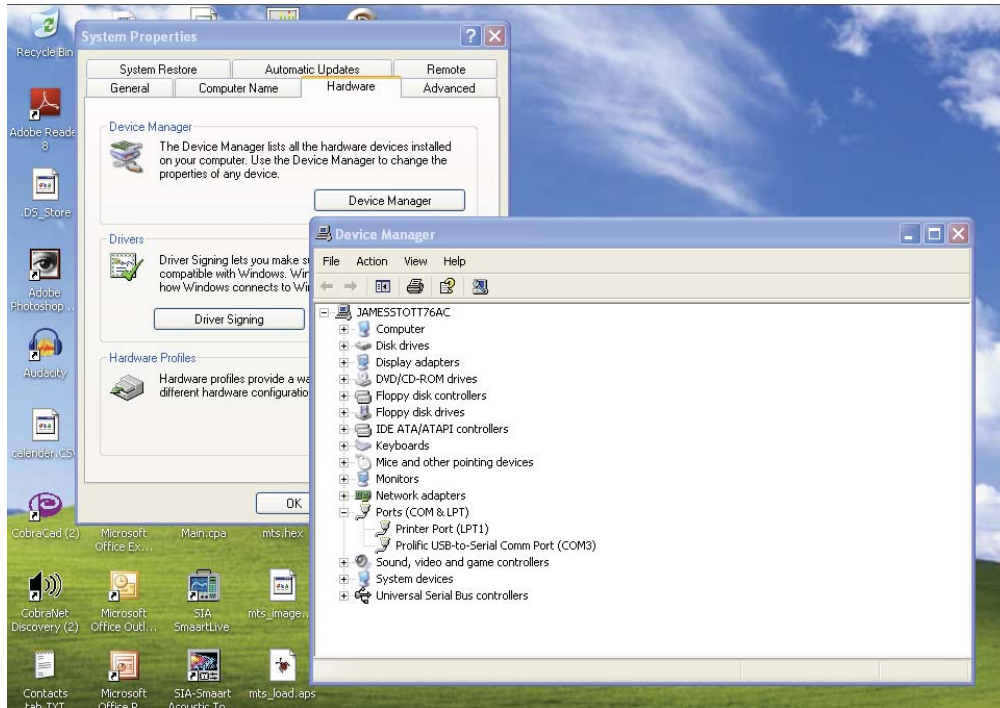

Figure 2.29: Locating the COMPORT used by the USB-Serial adapter.
- Select the Hardware and Device manager tabs. There should be a section marked “Ports”. Click on the “+” sign to open the tabview and it should show the USB to serial adapter. In the example in Figure 2.29 (below) it is shown as “Prolific USB Serial Comm Port (COM3)”.